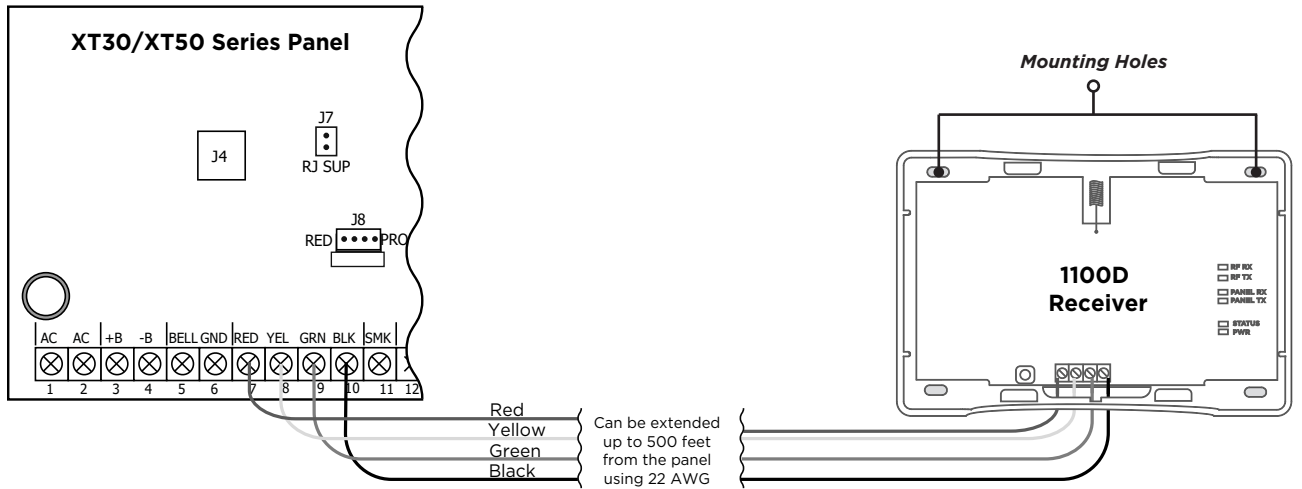

Figure 2: Wiring the 1100D to the Panel
2. Use the included #6 screws to secure the 1100D to the surface. See Figure 2 for mounting hole locations.
1. Connect the red, yellow, green, and black wires to the **PANEL** terminal on the 1100D and connect the other ends to the 7, 8, 9, and 10 terminals on the panel. See Figure 2.
The six labeled LEDs on the 1100D PCB display wireless receiver operation and activity. See Figure 2 for LED locations and Table 1 for LED indications.